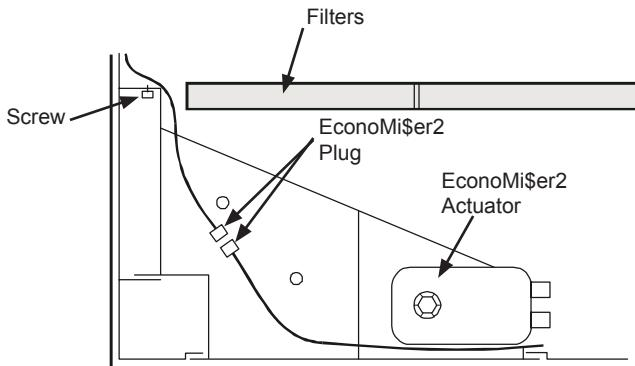

Fig. 7 - Top View of EconoMi\$er2 Installed in Unit
9. Install a screw through the pre-punched hole in the EconoMi\$er2 into the flange on the horizontal duct opening. (See Fig. 7.)